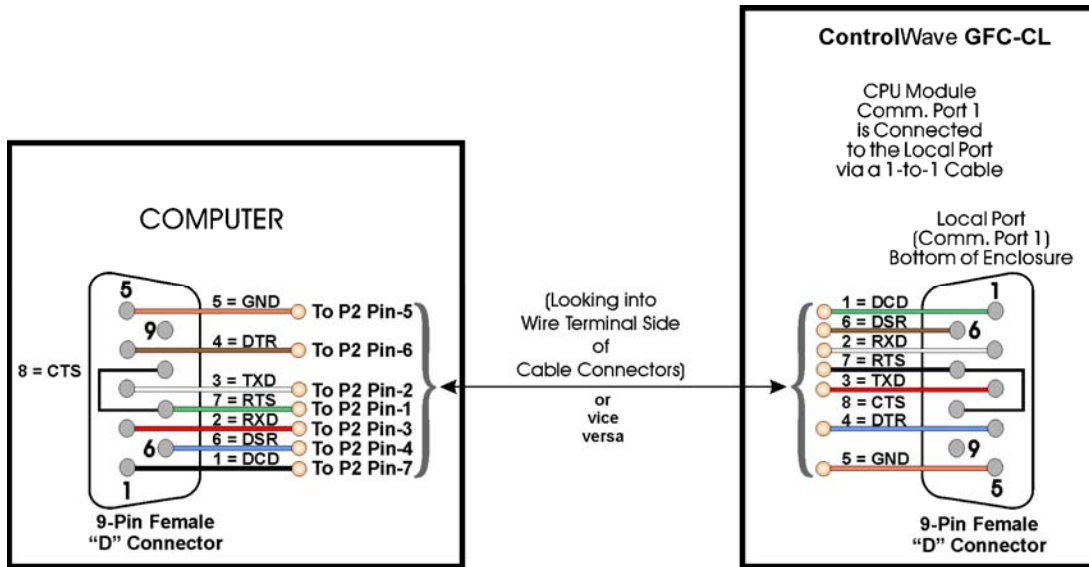

Figure C-4A - PC Connected to ControlWave GFC-CL Local Port (D-Type Connector Version)
4. Configure/Connect appropriate communication port(s) (see Sections 2.3.3.2). Connect COMM. Port 1 or 2 of the **ControlWave GFC-CL** (depending on CPU/System Controller Board's Switch SW2 settings - see Tables C-2 & C-3 and Figures C-4A through C-5) to a Communication Port of a PC (typically PC COMM. Port 1). *Note: Also see Section 2.4.4.*